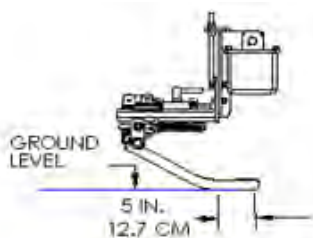
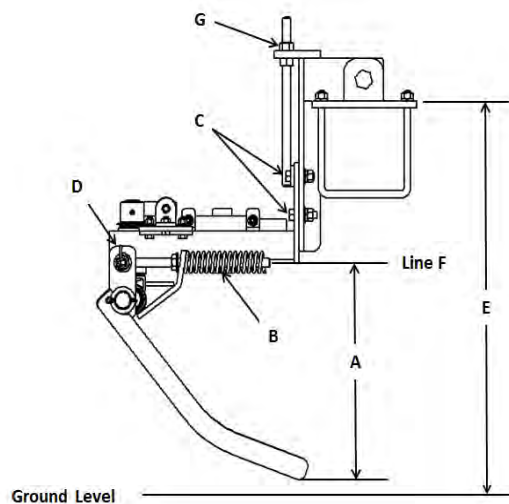

Figure 38: Row Finder Wand Placement
Figure 39: Row Finder Adjustment- Right Side View
When harvesting, the row finder wands should be adjusted like Figure 38 such that there is 5 in. (12.7 cm) of contact between the ground and row finder wands. Adjustment spring (B), shown in Figure 39, can be adjusted to apply more down pressure to ensure constant contact with the beet row.
Likewise, the row finder wands should be angled down when lifted out of the ground as shown in Figure 39. Dimension (A) can be adjusted using nuts (D):
1. To increase distance (A), adjust nuts (D) along line (F) toward the rear of the machine.
2. To decrease distance (A), adjust nuts (D) along line (F) toward the front of the machine.